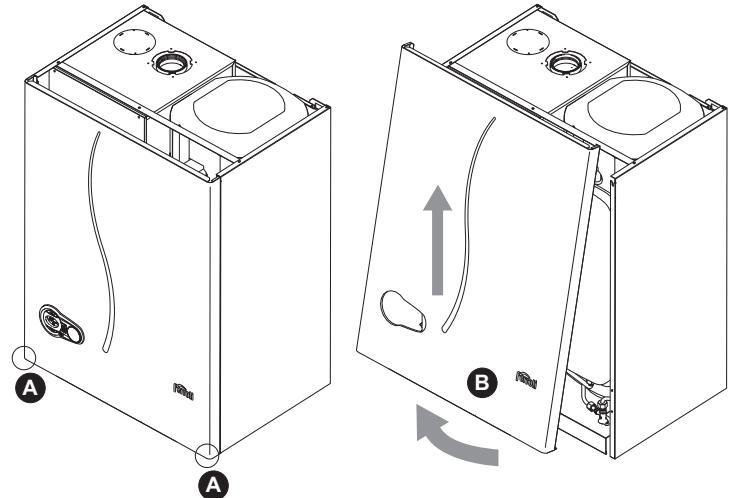

fig. 27 - Front panel opening
1. Undo the screws **A** (see fig. 27).